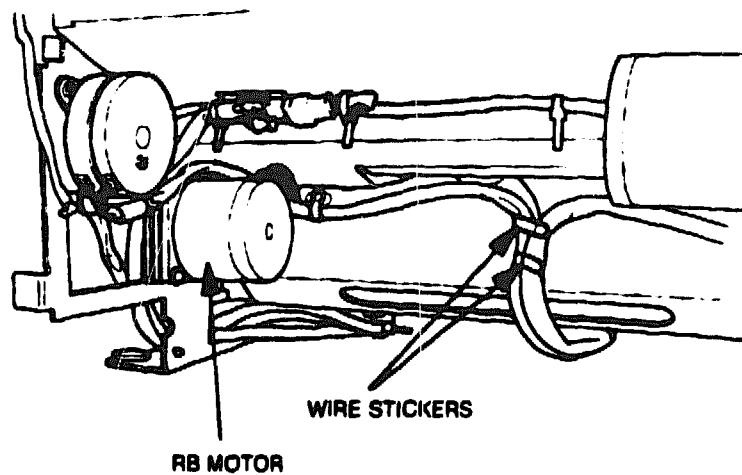

Figure 6-88 RB Motor Wire Stickers
5. Place the mechanism unit flat on the worktable. Then remove the two wire stickers on the lower base plate (see Figure 6-88).